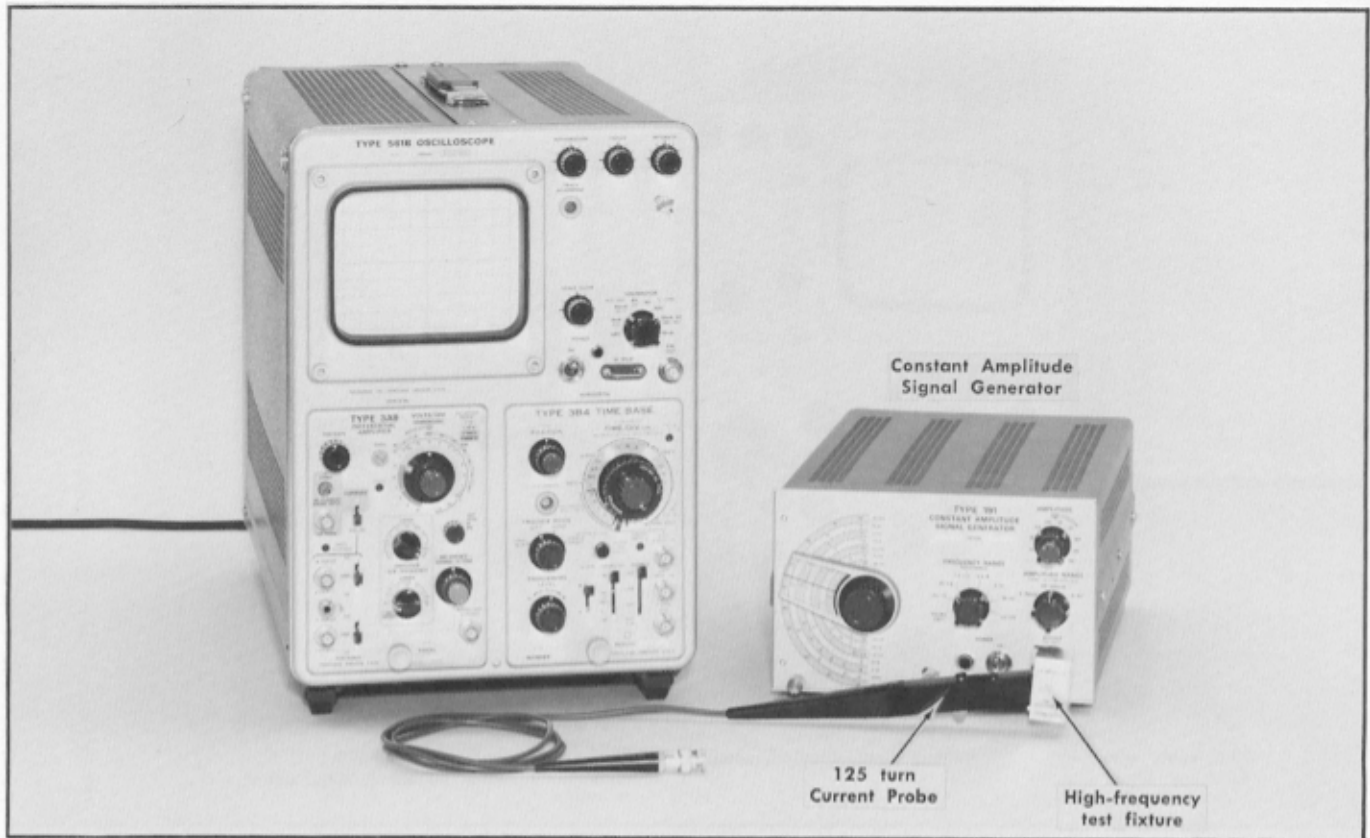

Fig. 5-33. Equipment required for step 27.
a. Test equipment is shown in Fig. 5-33.